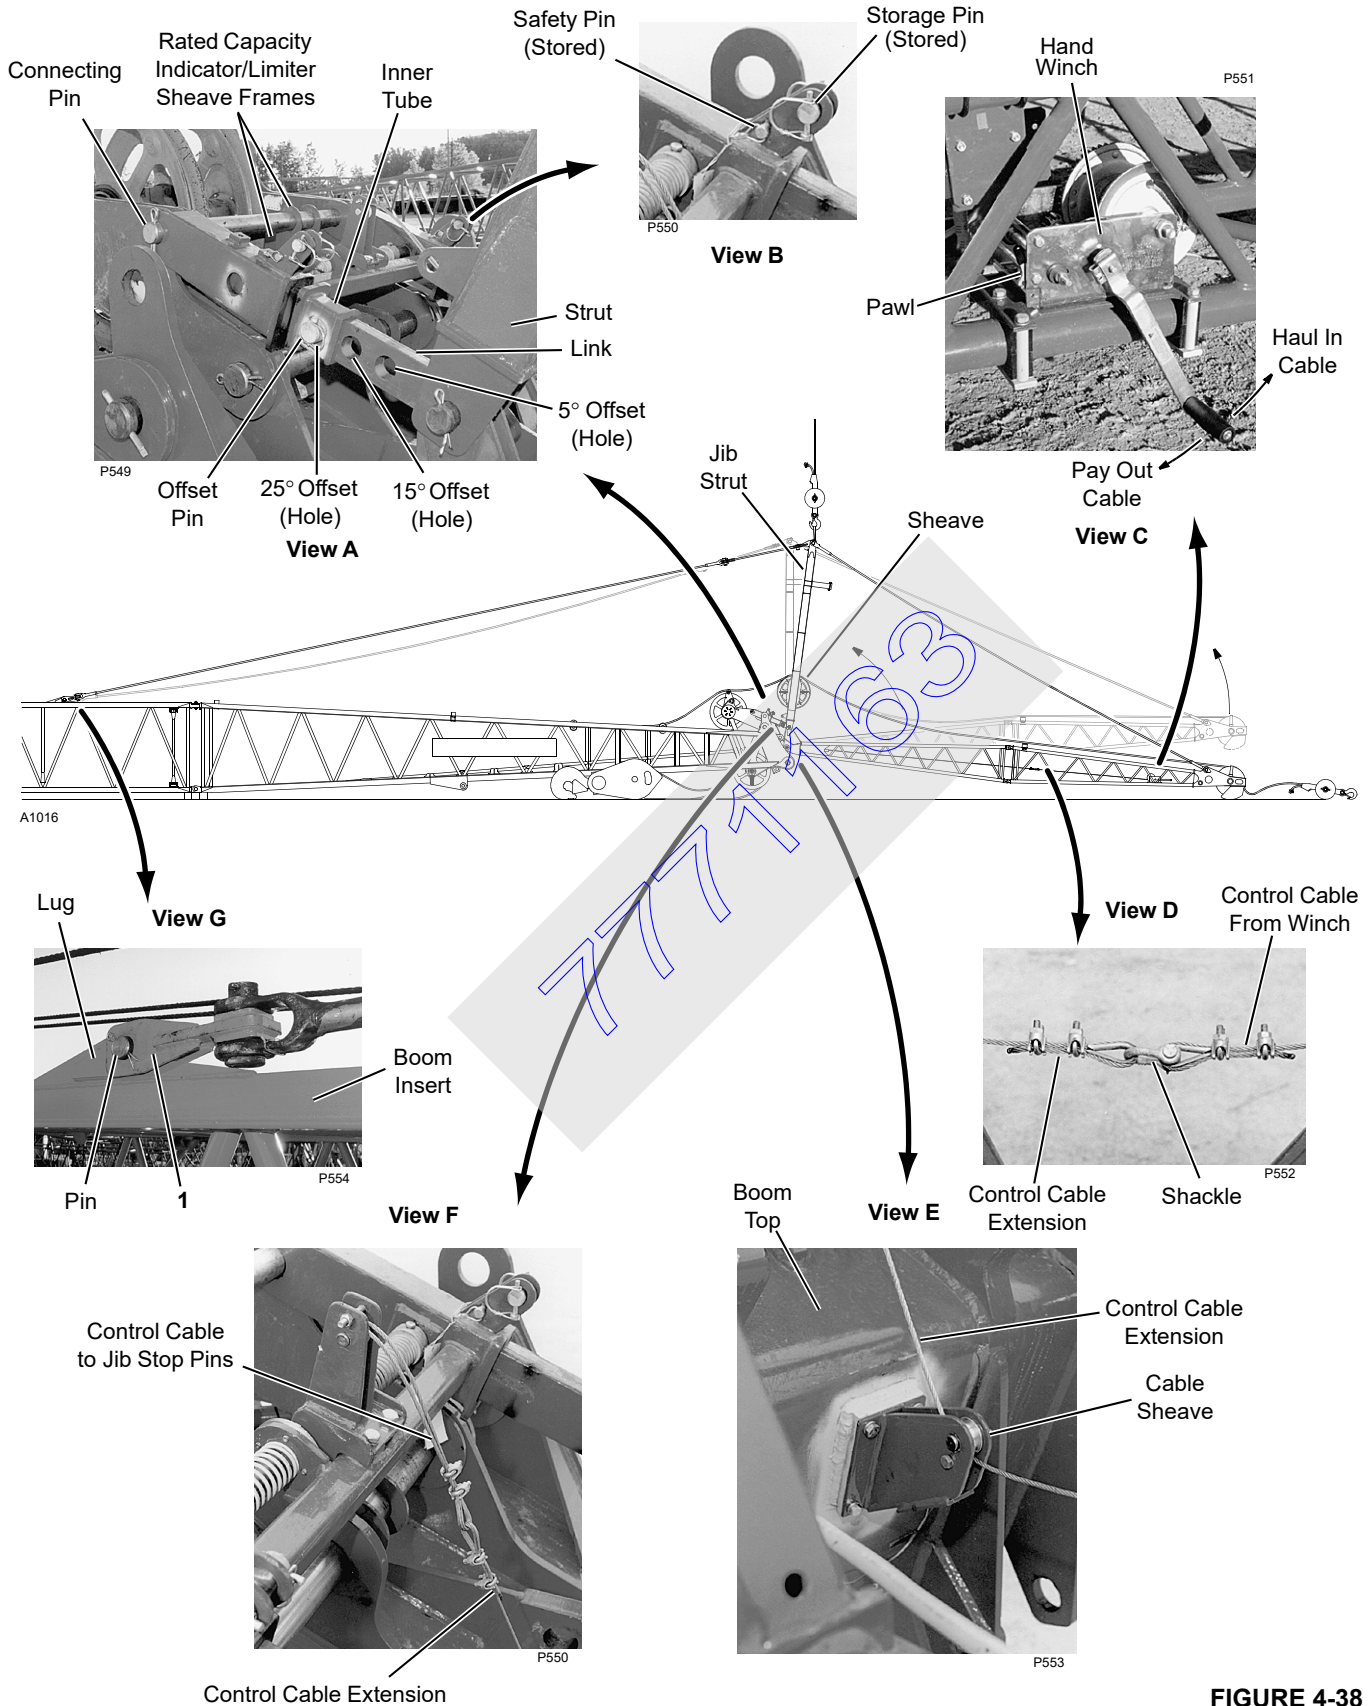

FIGURE 4-38
See Figure 4-38 for following procedure.
See Figure 4-38 for following procedure, unless otherwise noted.
2. Using hand winch on jib top (Figure 4-38, View C) haul in control cable until jib stop pins are fully disengaged. Lock handle in position with pawl on winch.
1. Remove shackle to disconnect cable extension from winch cable (Figure 4-38, View D). Store shackle with cable extension.
3. Remove offset pins (Figure 4-38, View A) and pin inner tubes in 5° position.
4. Support jib stop frame so it cannot drop, and remove connecting pin (Figure 4-38, View A).
6. Disconnect cable sheave from end of boom top (Figure 4-38, View E).
4. Disconnect backstay links (1) from lugs on boom insert (Figure 4-38, View G).